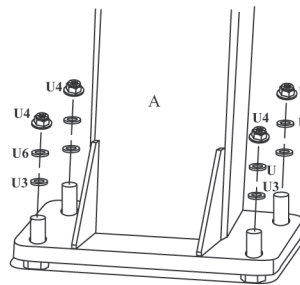

FIGURE 1B
- Remove the Padding from Main Post (A). Place the Main Post (A) over the J-Bolts. Slide a 18mm Thick Washer (U3), a Lock washer 18mm (U6) and thread a 18mm Hex Nut (U4) to each J-bolt. Tighten the Nuts only a few turns onto the J-Bolts as shown in FIGURE 1B.
- If the Main Post (A) is not exactly vertical, adjust the 18mm J-Bolt Hex Nuts (U4) located under the Post base. Tighten all of the Hex Nuts (U4) Above Post base when Main Post (A) is vertical.